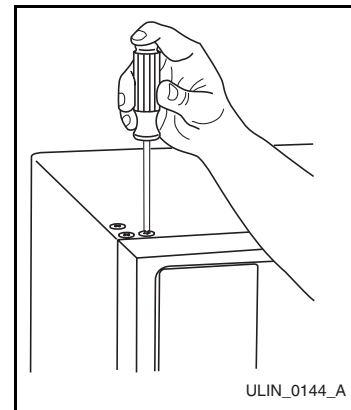

Figure 28
- Remove three plastic screw plugs (Figure 28) from hinge holes, top of cabinet, opposite side. Be careful not to scratch cabinet.